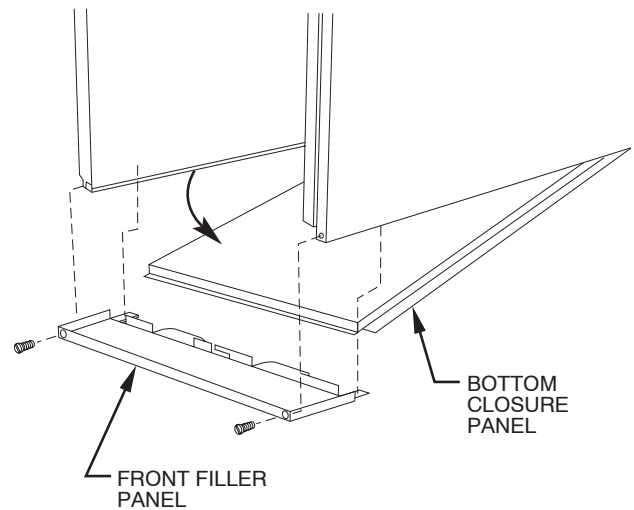

Fig. 16 – Removing Bottom Closure Panel
1. Tilt or raise furnace and remove 2 screws holding front filler panel. (See Fig. 16.)